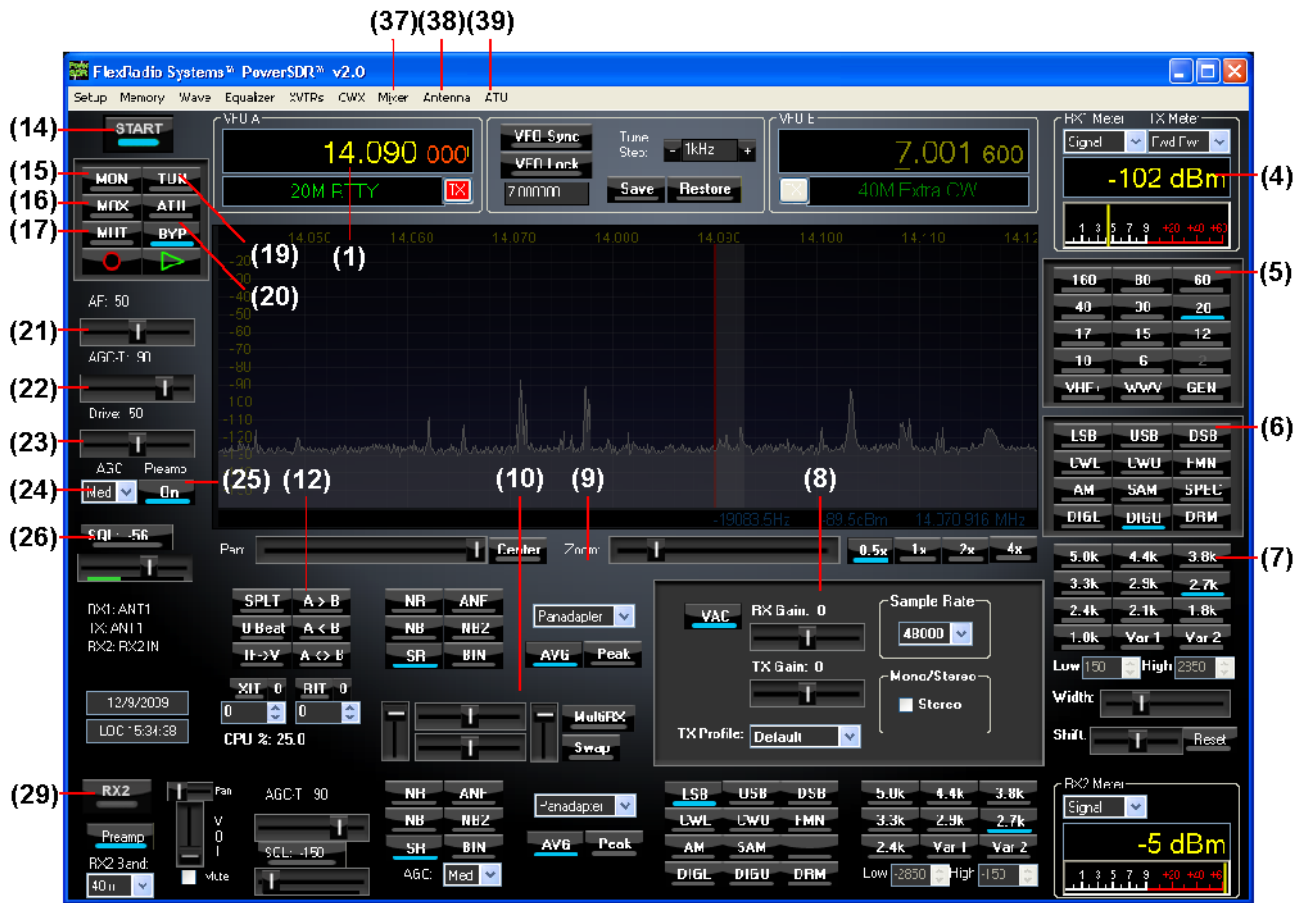
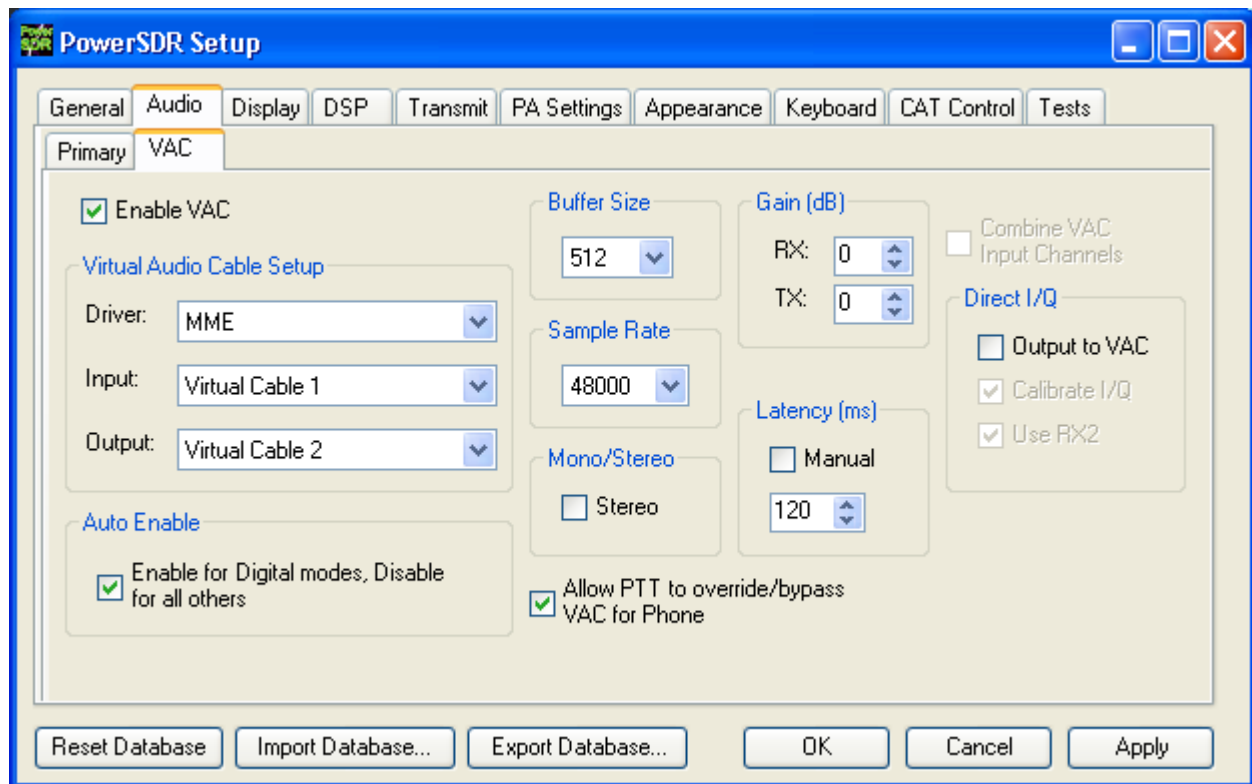
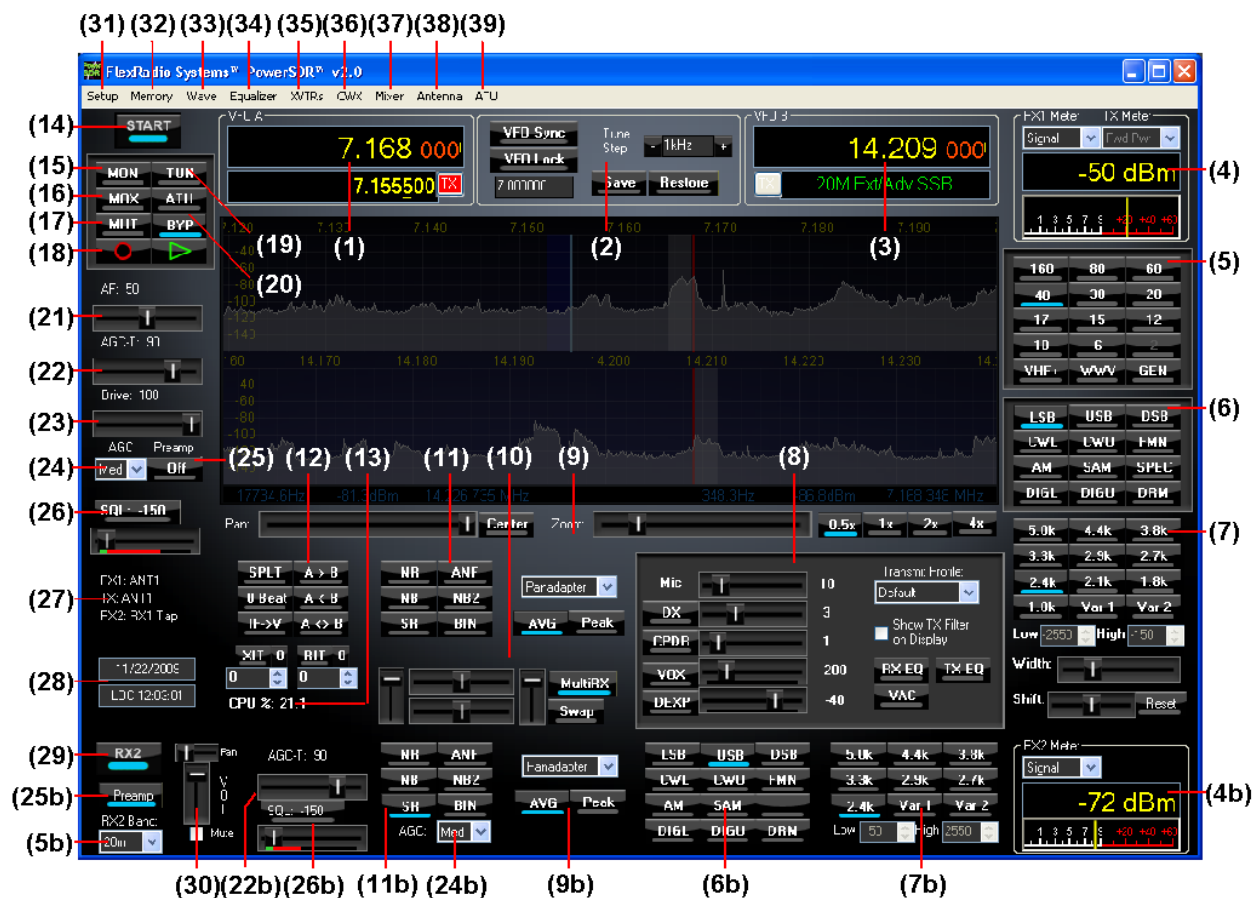

Figure 44: Front Panel Controls Used for Basic Digital Mode Operation
Figure 45: Setup Form - Audio Tab ,VAC Sub-Tab
Figure 46: PowerSDR 2.0 Front Console
Please use Figure 44 to identify the controls referenced in the following step-by-step instruction. For consistency we have used the same control identifiers as in Figure 46 on page 73 and for clarity we have left out any identifiers of controls not referenced.
2. In PowerSDR open the **Setup** Form, **Audio** tab and then the **VAC** sub-tab (see Figure 45 below). Check **Enable VAC**, Select *Virtual Cable 1* as the **Input** and *Virtual Cable 2* as the **Output**. If your digital mode software requires a stereo connection, check **Stereo**. To automatically enable VAC for **DIGU**, **DIGL** and **DRM (6)** modes, check **Auto Enable**. When operating these modes, the Front Console also shows several controls relating to VAC (8), as shown in Figure 44 above).